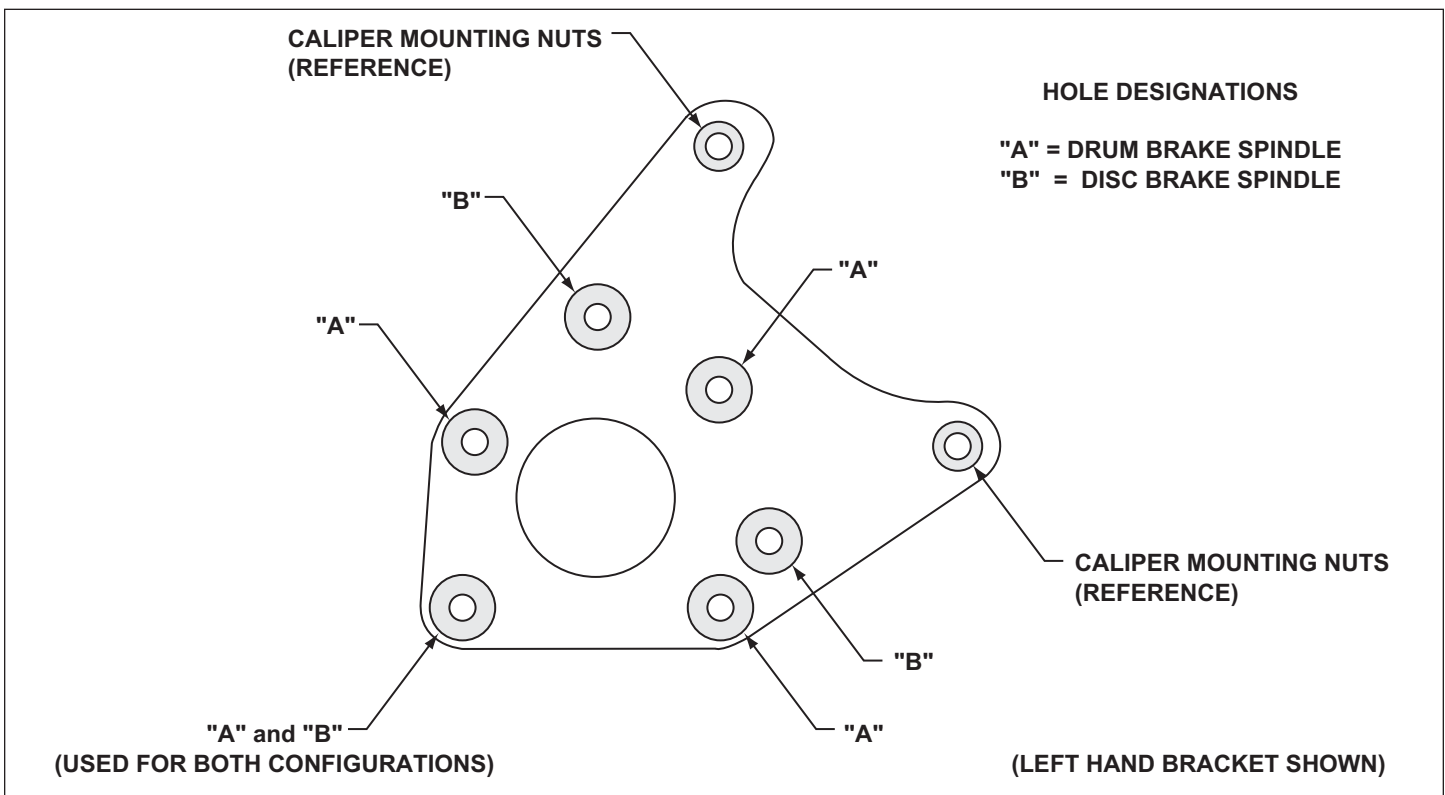
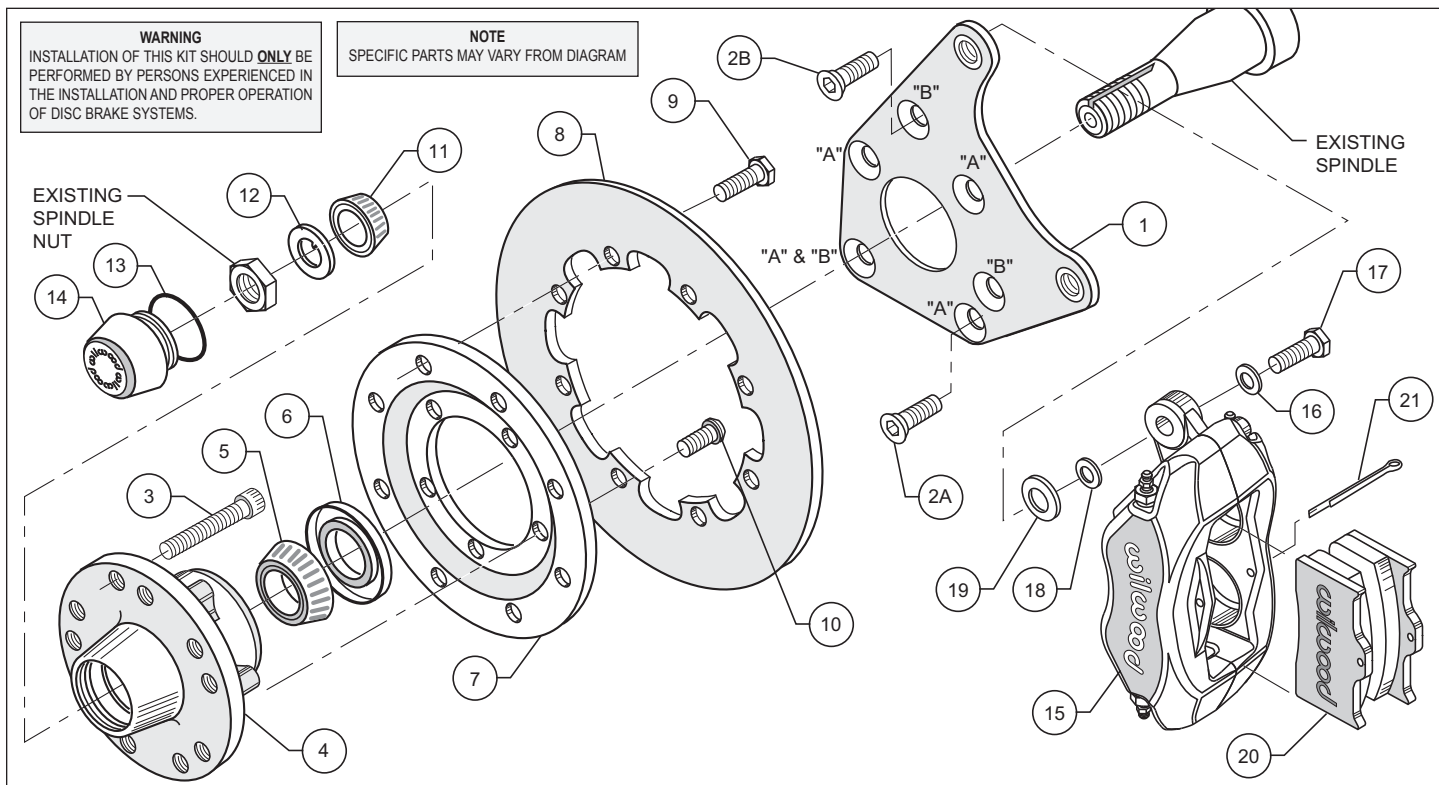
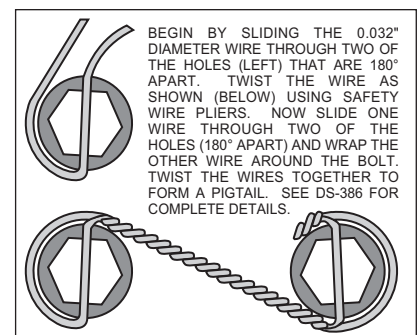

Figure 1. Wilwood Caliper Mounting Bracket
Figure 2. Typical Installation Configuration
Figure 4. Safety Wire Diagram
This kit has been designed for use with both the disc brake or the drum brake configuration of vehicle. The only difference is in how the Wilwood caliper mounting bracket is installed. The same bracket is used for both configurations; the disc brake version utilizes three mounting holes while the drum brake application uses four mounting holes (see Figure 1). For your convenience we have supplied bolt kits for both applications (see parts list and Figure 2 as necessary, item(s) 2A and 2B). Use the bolt kit that is applicable to your vehicle and disregard the other one.
These modifications should be performed by a qualified machinist and completed before assembly of the Wilwood disc brake kit begins. Using the caliper mounting bracket as a template (refer to figure 1 as necessary), locate and verify the three original stock holes on the steering arm that need to be modified. Drill a .332 diameter hole through all three holes, then tap 3/8-24 UNF (fine thread). Countersink the holes to .438 x 90°.
- As mentioned before, this kit uses the same mounting bracket (1) for both the drum and disc brake spindle. The drum version utilizes four mounting bolts (designated with a "A"), while the disc only requires three (designated with a "B"). Refer to figure 1 and figure 2 as required for the basic installation position of the bracket and the "A" and "B" reference designations (these designations are not physically marked on the bracket, they are referenced on the drawings for your convenience) and align using the three or four holes (as applicable) to the face plate of the steering arm. Install bolts (2A or 2B) through caliper mounting bracket (1) into steering arm, finger tighten only. After you are positive of the bracket (1) alignment, remove the mounting bolts (2A or 2B) one at a time and Apply red *Loctite*® 271 to bolt threads (2A or 2B), then reinstall. Torque bolts (2A or 2B) to 30 ft-lb. **NOTE:** Be sure the heads of the bracket (1) insert nuts are facing outward toward the wheel.
- Install wheel studs (3) into the hub (4). Torque to 77 ft-lb. **NOTE:** There are two (2) five lug patterns in the hub (5 x 4.50 and 5 x 4.75). Make sure of the correct hole pattern for the correct wheel application before installing studs into hub.
- Pack the large inner bearing cone (5) with high temperature disc brake bearing grease (available from your local auto parts store) and install into the backside of the hub (4).
- Install the grease seal (6) by pressing into the backside of the hub (4).
- Attach rotor adapter plate (7) to rotor (8) using bolts (9). Torque bolts (9) to 180 in-lb. Safety wire bolts (9) using standard 0.032 inch diameter stainless steel safety wire as shown in Figure 4. Please refer to Wilwood's data sheet DS-386 (available at [www.wilwood.com/Pdf/DataSheets/ds386.pdf](http://www.wilwood.com/Pdf/DataSheets/ds386.pdf)) for complete safety wire installation instructions. **NOTE:** Dished side of adapter plate (7) should face hub (4). The machined tab side of the iron rotor (8) should face the adapter plate (7).
- Mount the adapter/rotor assembly (7/8) to the hub (4) using bolts (10) (finger tight), as shown in Figure 1. Using an alternating sequence, remove bolts one at a time, apply red *Loctite*® 271 to the threads, and torque to 55 ft-lb.
- Pack the small outer bearing cone (11) with high temperature disc brake bearing grease and install into front of hub (4). Slide the hub/rotor assembly (4 and 8) with outer bearing cone (11) onto the spindle. Secure using spindle washer (12), stock adjusting nut and nut locking device. Adjust bearings per Original Equipment Manufacturer (OEM) specifications.
- Install the o-ring (13) and then the dust cap (14) onto the hub (4). Friction created by the o-ring (13) on the dust cap (14) keeps it from unscrewing.